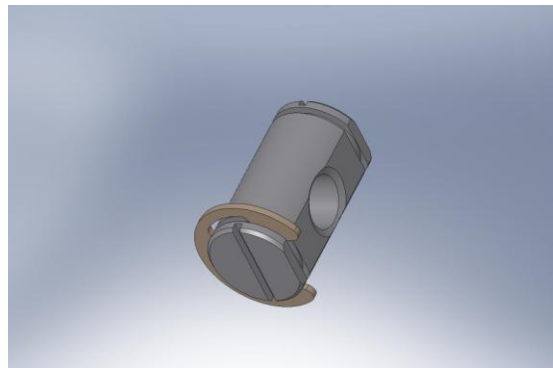

Figure 3.132. Clip retaining ring into groove on one side of Type 02 Barrel Nut. This is in preparation for setting the Nuts along the tops of the Outer Walls.
- Clip E-style retaining rings onto one side of each of (108) **Type 02 Barrel Nuts** (D071250-02), as shown in Figure 3.132.